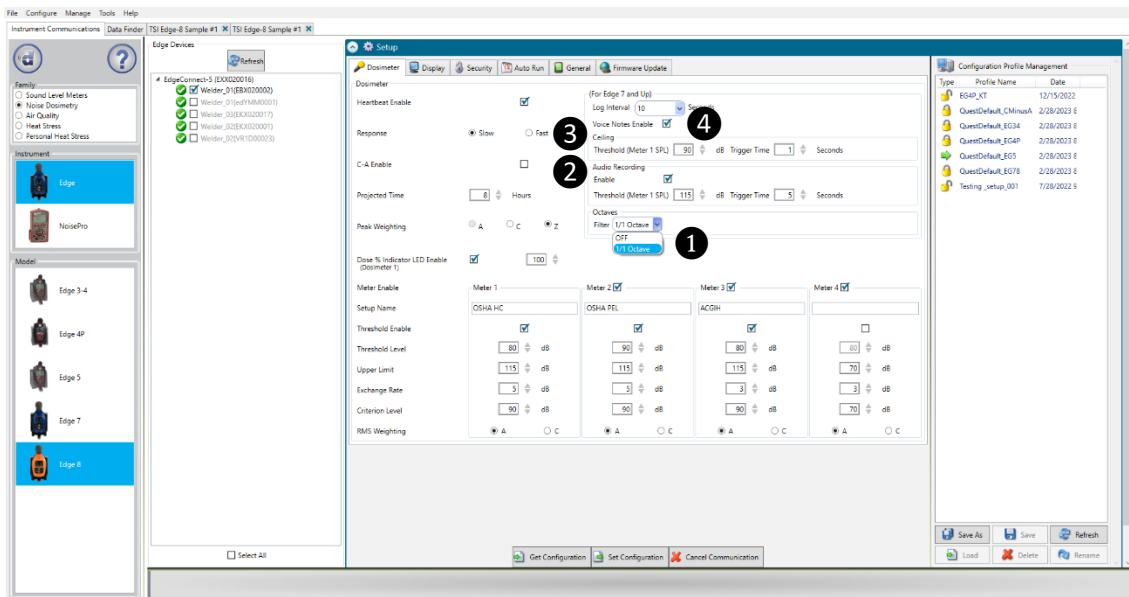
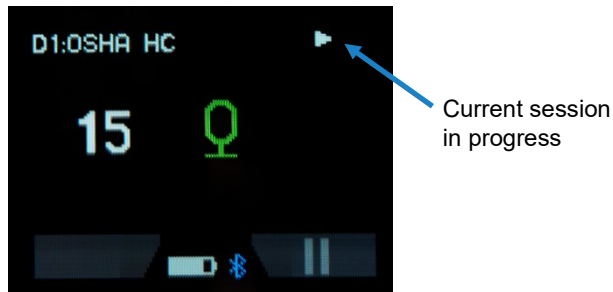
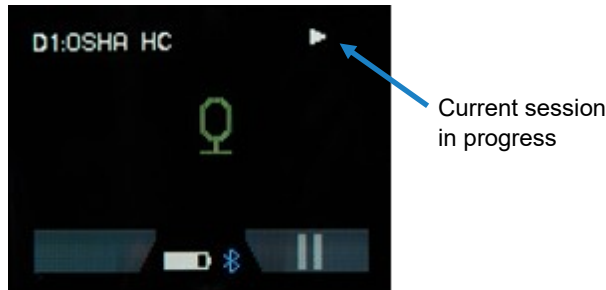

Figure 3-7: DMS Edge dosimeter parameter setting screen
Figure 3-8: Voice note recording screen
Figure 3-9: Automatic Audio recording screen
Voice Notes Enable	When enabled (checked) in DMS, the user can, by the press of a button on the Edge, make 14-second verbal notes about, for example, location, description, or noise events. These recorded audio events can be viewed and played on the Logged Data Chart panel (see ④ Figure 3-7).
Ceiling	The Ceiling function, which is always enabled on the Edge, will increment a counter whenever the sound level measured by meter 1 has exceeded the specified threshold level for the specified trigger time. This recorded counter value can be displayed on the Summary Data panel by enabling the Ceiling Exceeded Count measurement (see ③ Figure 3-7).
Audio Recording	When enabled (checked) in DMS, this function will automatically record 14 seconds of an audio noise event whenever the sound level measured by meter 1 exceeds the entered threshold level for the entered trigger time. The resulting audio events can be viewed and played on the Logged Data Chart panel (see ② Figure 3-7).
Octaves Filtering	<p>Octaves Filtering applies to meter 1 only. The resulting data can be view in the Summary Data and Filter Summary Chart/Table panels. It displays the SPL (Sound Pressure Level), Lavg, and Lmax values/graph, among others, for each frequency band in a given audio spectrum. There are two Edge Octaves Filter settings:</p> <ul style="list-style-type: none"> ▪ OFF – No filtering (for broadband measurements only) ▪ 1/1 Octave – Full octave band analysis (31.5 Hz to 8 kHz) (see ① Figure 3-7).
The EG8 model comes equipped with an octave band filter that can be enabled via DMS. The Octave Band function is only available for Meter 1 (see Figure 3-7).
The EG8 is equipped with a voice note capability (see Figure 3-7). To start a recording, press the side button of the EG8 once. A recording screen will appear with 15 seconds countdown (see Figure 3-8). After the countdown, the screen goes back to its original display. This action can be repeated at needed. The recording is automatically saved on the instrument but can only be listened to or visualized in DMS (the study must be downloaded to read the audio file), with the appropriate time stamps. The maximum number of voice notes is 10. If this number is reached, the memory full or voice notes full  symbol will appear. The current session remains uninterrupted while the recording is in progress.
The EG8 can automatically record audio of noise event above a preset dB level. The recorded audio is saved on the instrument and can only be listened to or visualized via DMS (the study must be downloaded to read the audio file). The current session remains uninterrupted while the recording is in progress (see Figure 3-9). A custom trigger time can be set to enable recording only when said noise level lasts over a given time period (see Figure 3-7). This feature is especially useful for quick diagnostics and allows for time savings in noise data analysis. Each recording lasts 15 seconds, and the maximum number of audio recording is 10. If this number is reached, the memory full or audio recording is full  symbol will appear.